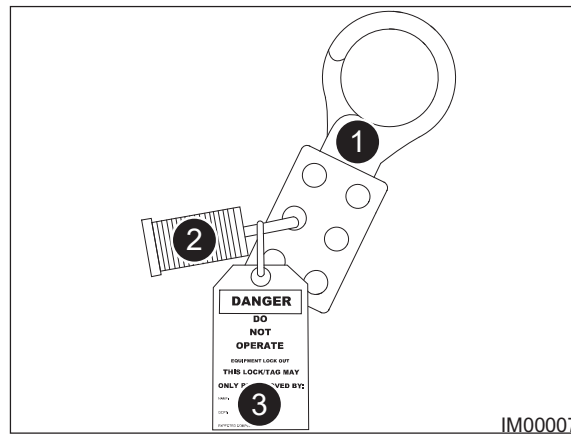

Fig: 2.7 - Lockout Clasp, Lock & Tag
4. Install the lockout clasp (Item 1, Fig: 2.7).
5. Individuals who are permitted to work on the machine are required install their own personal lock and tag to the clasp (Items 2 & 3, Fig: 2.7). The tag shall contain the correct information as in regards to who is working on the machine, the time and date of when it was installed, and the expected completion time of when the task will be complete.
3. Remove the tag, padlock, and clasp from the isolator switch (Items 3,2,1, Fig: 2.7).